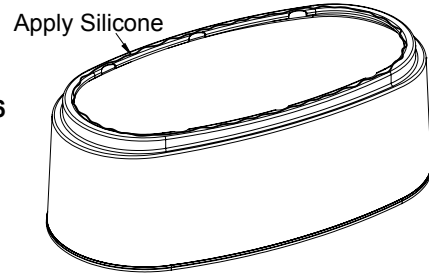

Figure 6
- 1 After locating the drain alignment kit, electrical, and water supply lines with the supplied template (Modena™ only), use a marker to trace the inside footprint of the skirt in the location where the bathtub will be placed. Add silicone only to the bottom of the skirt and place back in the marked area (Fig. 6).